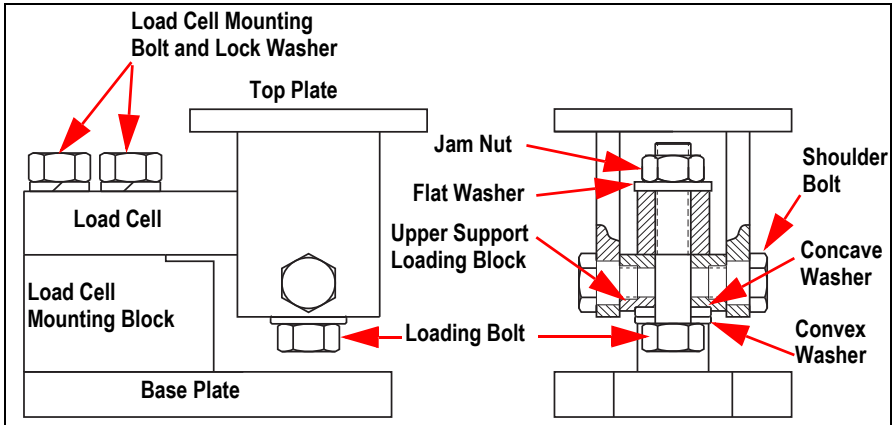

Figure 2-4. Parts of the RL1800 Module
2. Assemble the module and load cell (Figure 2-4).